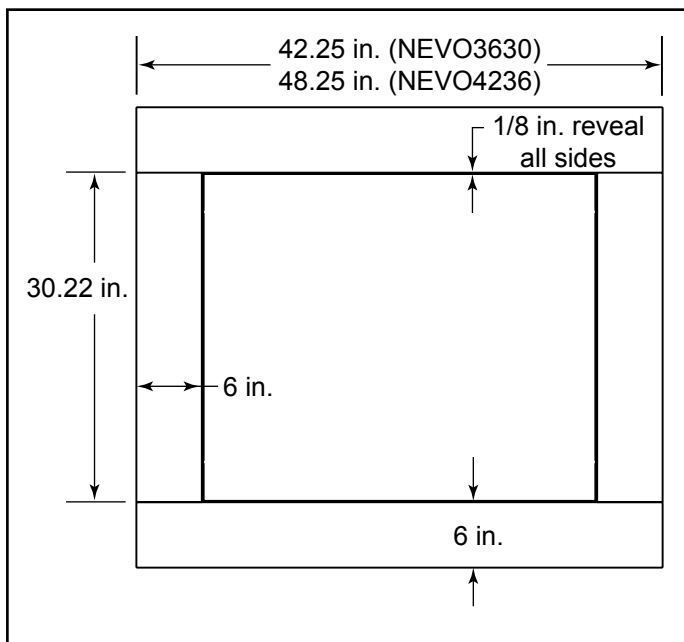

Figure 10.1 Marble/Granite Cut Dimensions
- Figure 10.1 shows the dimensions for cutting marble/granite if the optional Finishing Trim is not used.